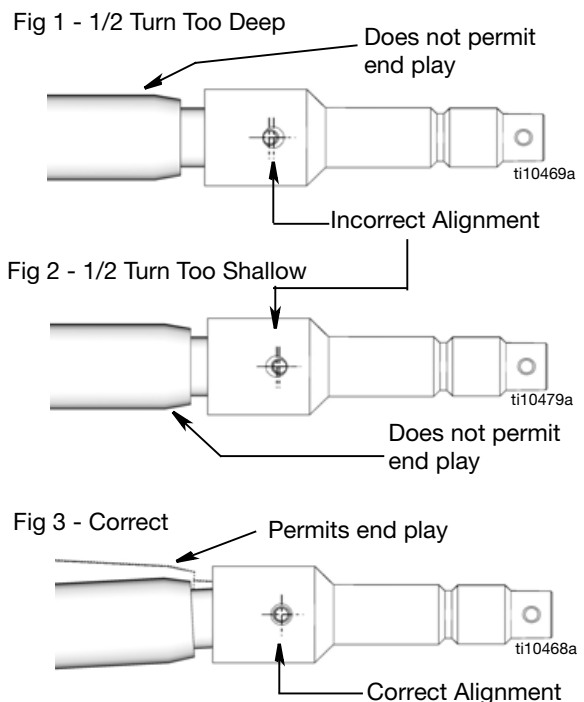

FIG. 2
Install the air line accessories in the order shown in Fig. 2
1. Slide piston seal (54) on piston/priming rod (58) assembly.
2. Screw priming rod (58) assembly onto connecting rod (57). Align the thru holes as close as possible, axis-to-axis (Fig. 2). See endplay Note included in Step 10, Pump Disassembly instructions (page 8) for additional assembly instructions.
4. Replace the gasket seal (60) on the pump cylinder (59). Screw the pump cylinder onto the extension tube (64).
5. Slide the intake seal (62) onto the priming rod (58) flat side down.
6. Replace the o-ring (61) on the seal retainer (63). Slide the seal retainer over the priming rod (58) and screw into the pump cylinder. Using the seal retainer torque the entire cylinder assembly to 44-55 ft-lbs (61-75 N.m).
7. Screw the shovel (66) on the priming rod (58). Screw the shovel tube (67) on the seal retainer (63).